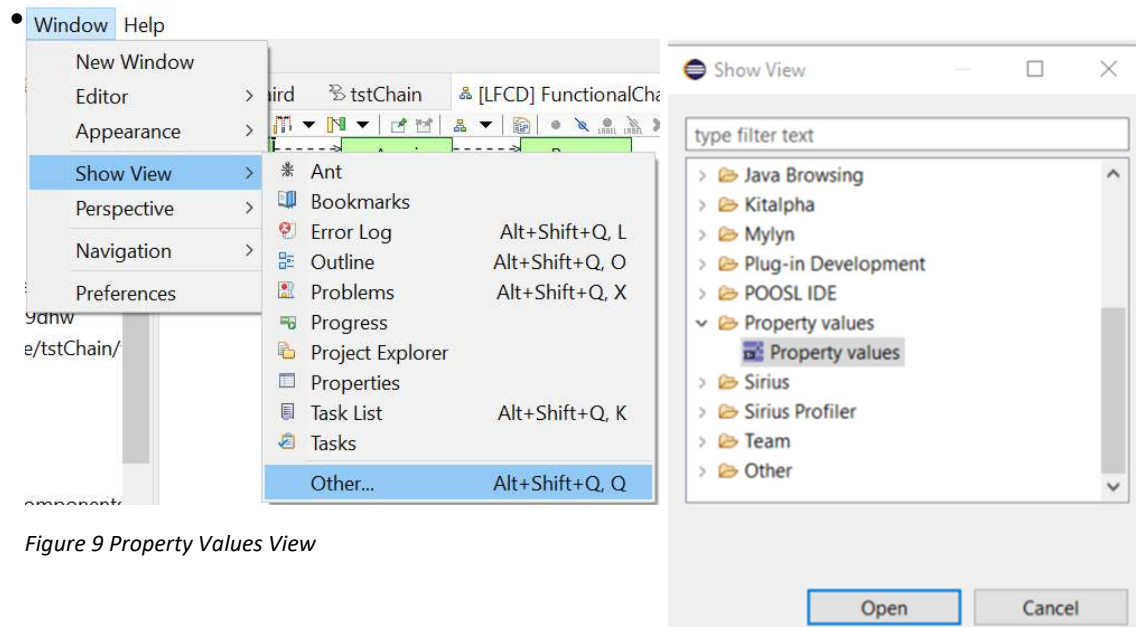

Figure 9 Property Values View
- Tab Window > Show View > Other > Choose Property values, select Property values – Open; see Figure 9